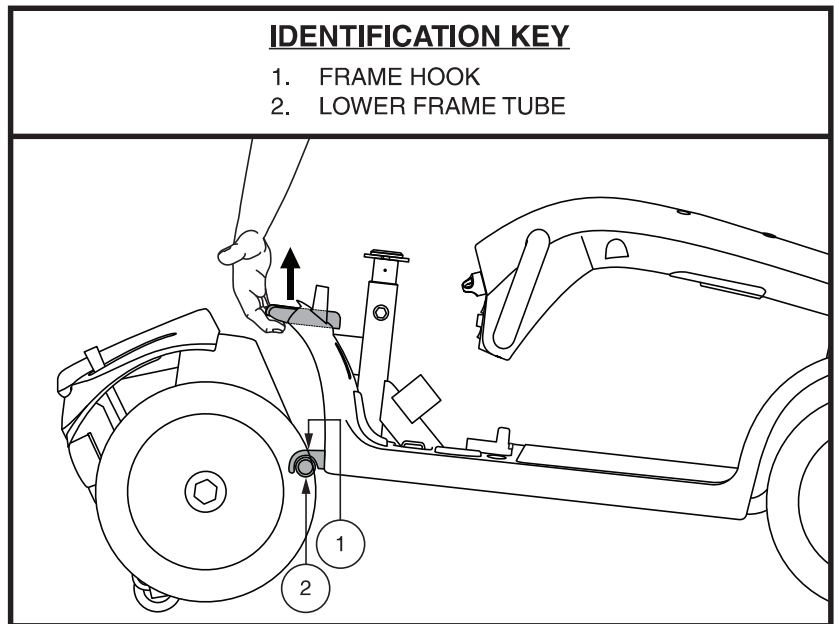

Figure 26. Frame Release Lever
3. Grasp and lift up on the frame release lever. **See figure 26.**
1. Position the front and rear sections of your scooter as shown in **figure 26**.